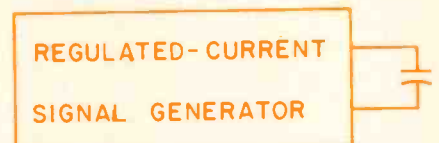

Fig. 3 — A capacitor is connected to the output of a regulated-current signal generator.
The voltage (E) across a capacitor connected to a regulated-current signal generator (Fig. 3) is depend-